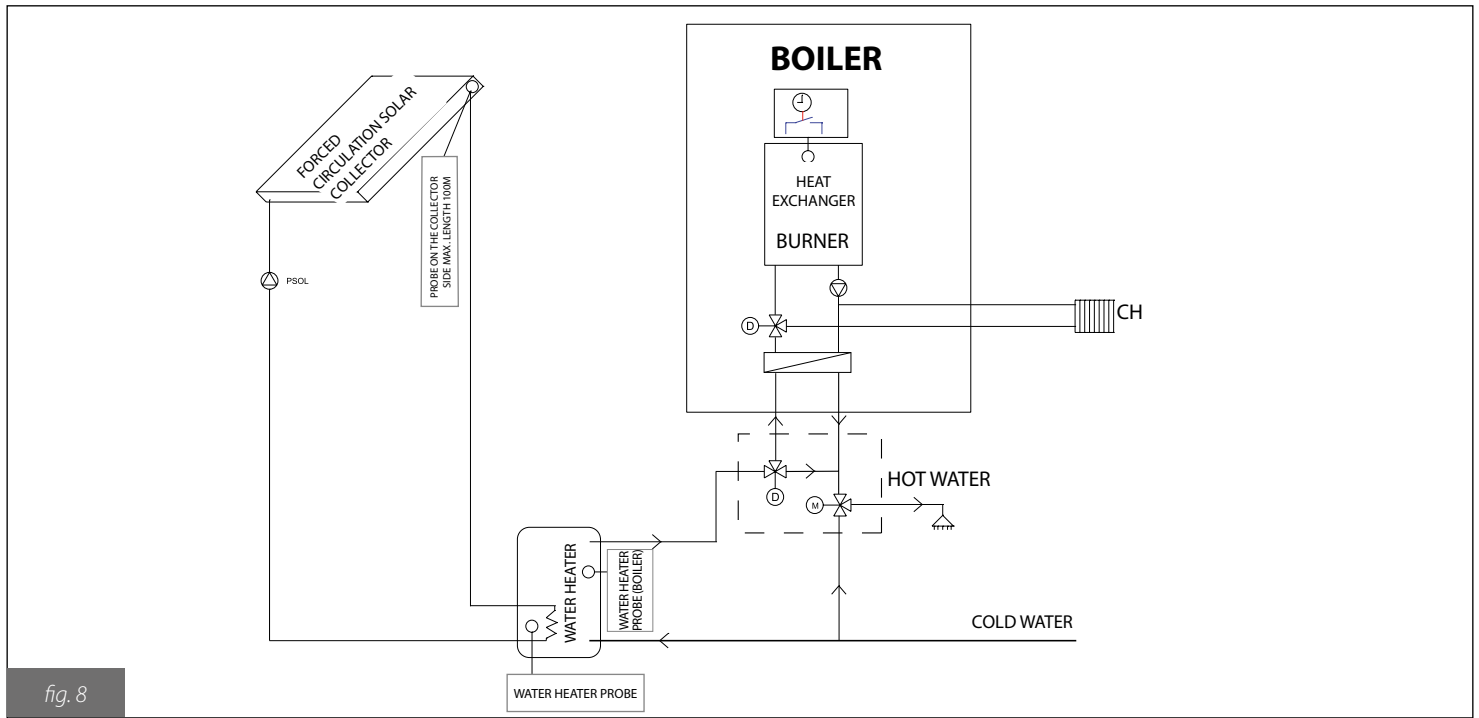

fig. 8
- Sample layouts are shown in fig. 8 and 9.